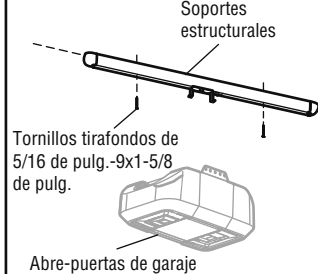

FIGURA 4
4. SUJETAR LA BARRA DE BAJADA AL MECANISMO DESLIZANTE EN LA CORREDERA (FIGURA 4)